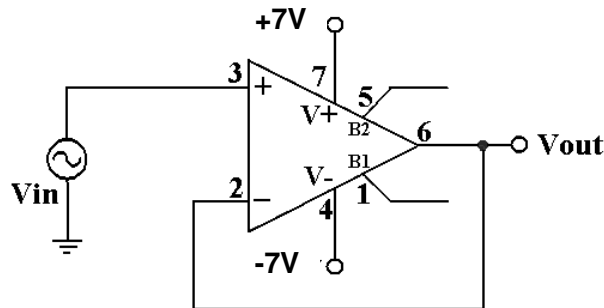

Fig. 6. Unity Gain Buffer Configuration.
8. Simulate the unity gain buffer configuration shown in Fig. 6 with a load of 2K in parallel with 100pF at the output. Assume a sinusoidal input of 10Vpp at 15 kHz. Obtain the maximum dV_{out}/dt of the output signal and find the frequency at which this Opamp will enter the slew rate conditions.